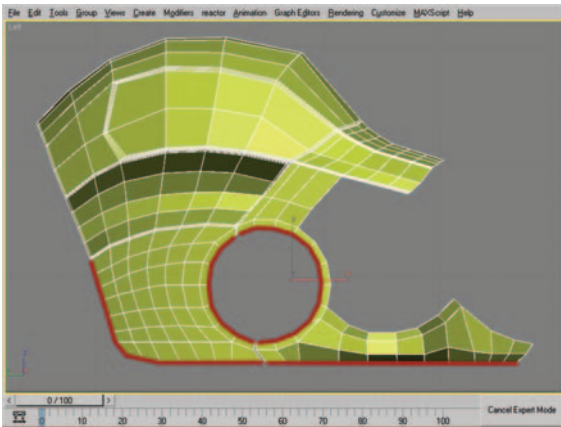
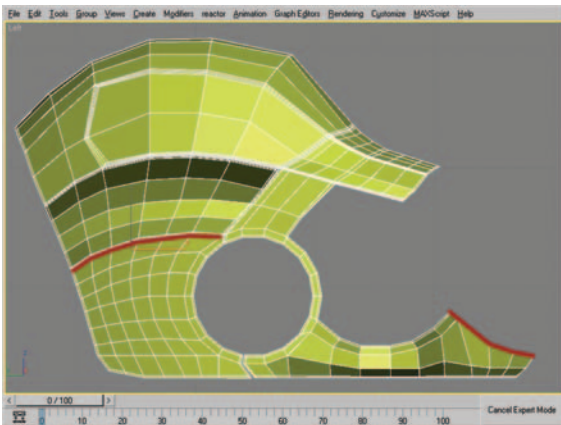

Figure 8.65 Edge selection to be chamfered.
Figure 8.67 Edge selection to be chamfered.
66. Repeat the process of chamfering with the same value. The next few figures (Figures 8.65–8.67) are going to show edge selections for you to chamfer in groups. The chamfer in Figure 8.67 produced an oddly placed vertex; this needs to be fixed.
The process of chamfering the edges in Figures 8.65–8.67 produced three small Tri N-gons. In the next step the Tris will be removed.